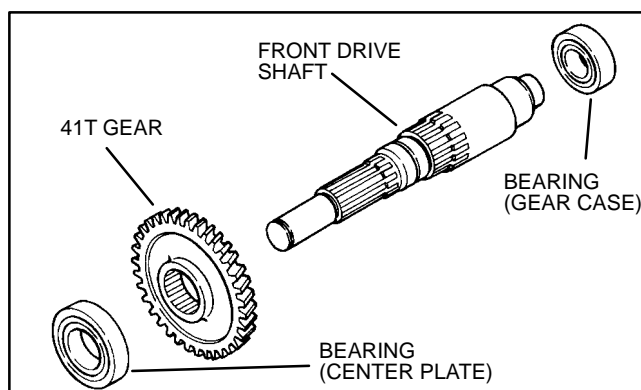

Figure 42
8. **On 4WD units**, remove front drive shaft and 41T gear from the gear case (see Item 2 of Fig. 42). Remove bearing from gear case and center plate.